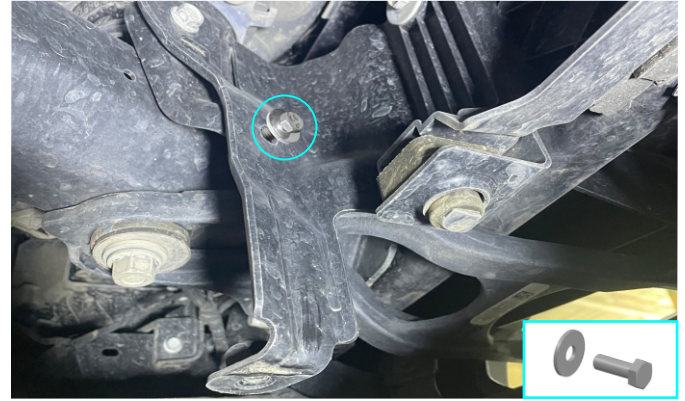

Fig. 7
7. Loosely insert supplied bolt M8x40 with flat washer M8 (items E, G) on 2-3 turns to factory radiator bracket as shown in fig.7.